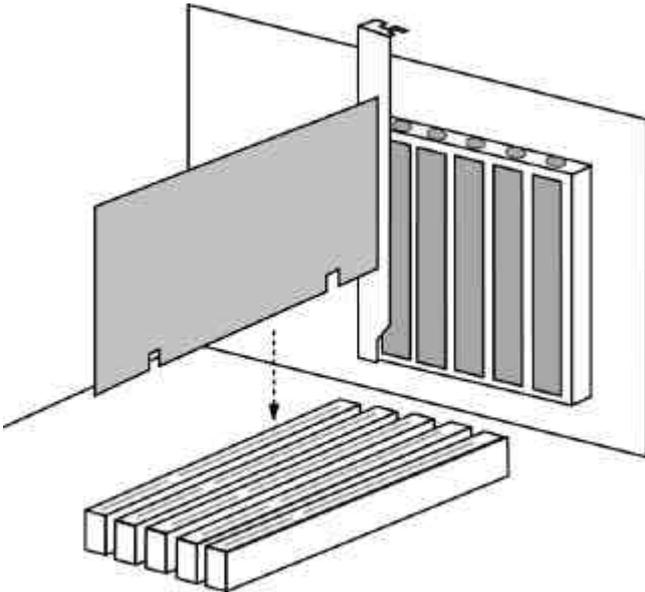

Figure 1
3. Install the FastTrak100 controller card into the open slot (see Figure 1 below).